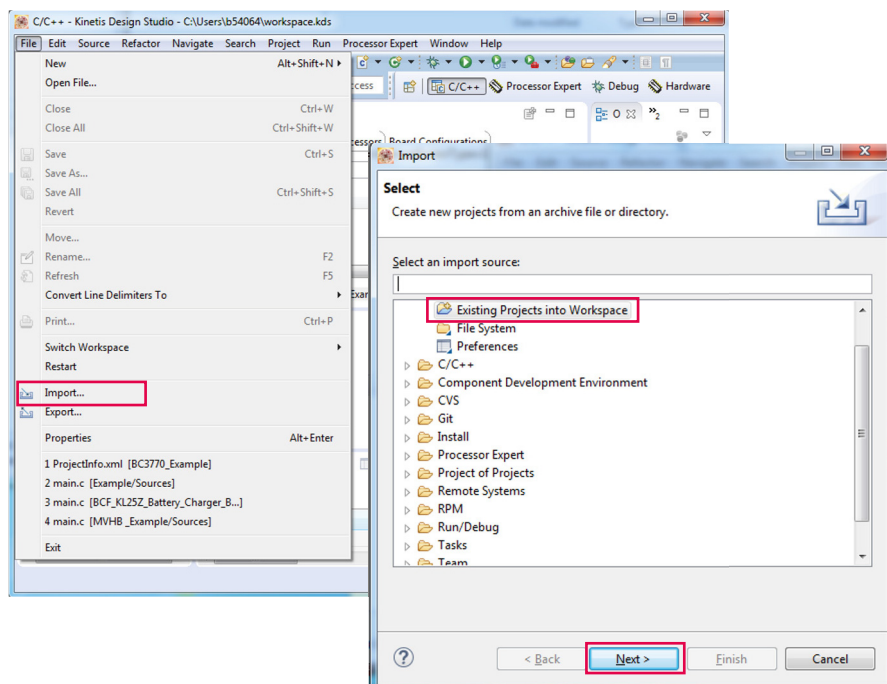

Figure 11. Example project import (a)
1. In the Kinetis Design Studio menu bar, click **File** -> **Import...** In the pop-up window, select **General** -> **Existing Projects into Workspace** and click **Next** (see Figures 11).